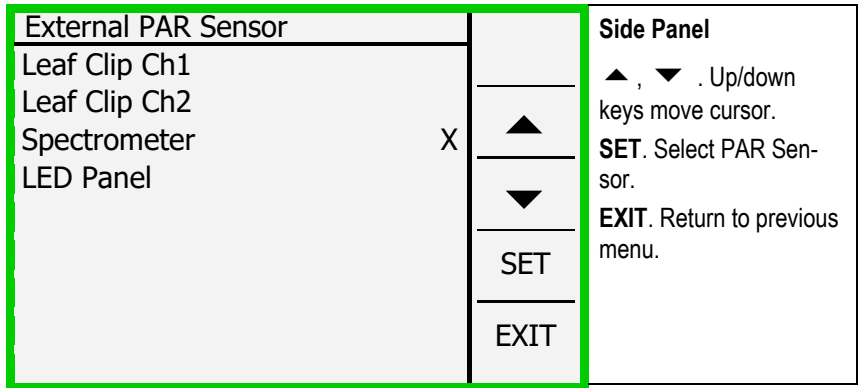

Fig. 53: External PAR Sensor
- (1) External PAR sensor is in the center of the actinic light beam.
- (2) Setup of previous calibration was different from the current one. For instance, if in previous calibration the external PAR sensor was 3 mm away from fiber tip and now the 2035-B leaf clip geometry is used (7 mm instead of 3 mm distance) the internal PAR readout would be much higher than the external one.
- (3) External PAR sensor not connected or incorrect PAR channel selected in window "External PAR Sensor" (Fig. 53, page 81).
Ext PAR Sensor of the menu “Leaf Clip/Ext. PAR” opens a submenu that selects the active external PAR channel (Fig. 53, page 81). Four possible PAR sensors are considered: PAR sensors 1 and 2 of 2035-B leaf clip, the miniature spectrometer, and a PAR sensor connected to the LED-Panel RGBW-L084. In the normal configuration of the MINI-PAM-II, Leaf Clip Ch 1 is selected.